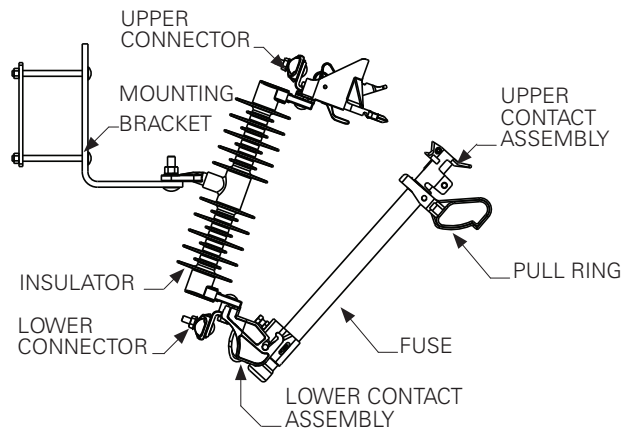

Figure 1. UltraSIL Polymer-Insulated CMU fuseholder cutout assembly
Eaton's Cooper Power series UltraSIL Polymer insulated outdoor fuse holding cutout will accept CMU Fuses (See **Figure 1**). The cutout's primary function is to interrupt fault or overload current within its rating on a distribution line to protect the electric circuit and/or connected equipment.
1. **Loosen upper and lower connectors** (See **Figure 1**).